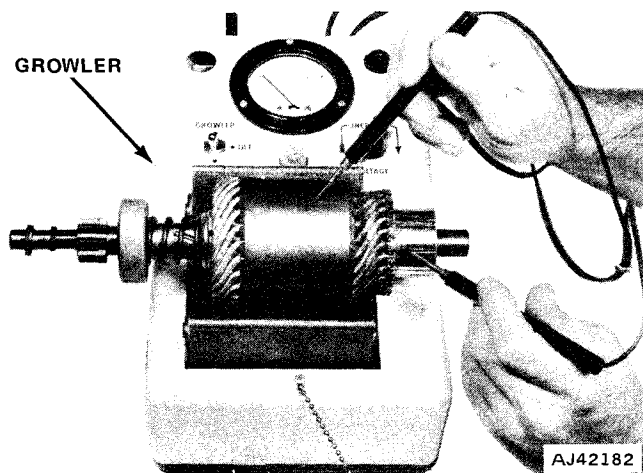

Fig. 1F-11 Armature Ground Test
(1) Place armature in growler jaws and turn power switch to GROWLER position (fig. 1F-12).
(2) Hold steel blade parallel with and touching armature core. Slowly rotate armature one or more revolutions in growler jaws. If steel blade vibrates at any area of core, area is shorted and armature must be replaced.